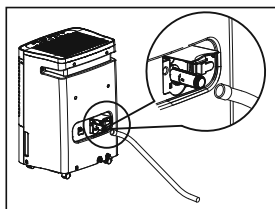

fig. 4
- c. Screw the garden hose onto the threaded portion of the drainage joint. (fig.4)